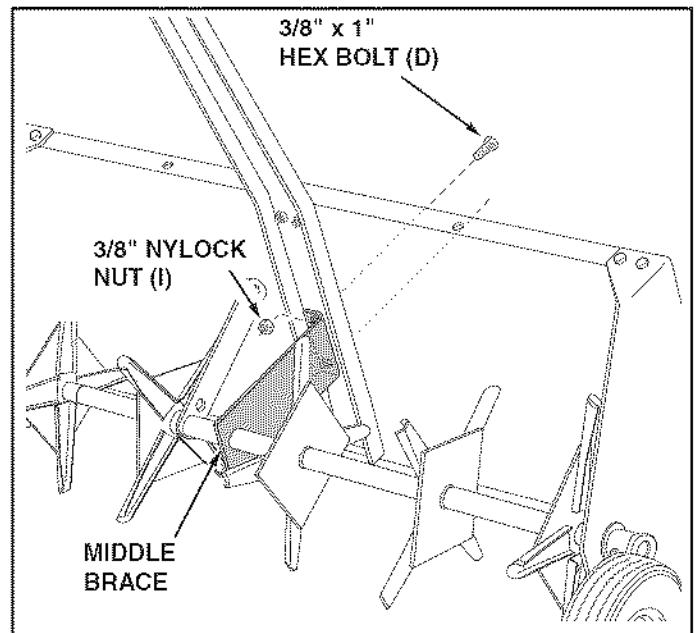

FIGURE 10
- Tip the aerator onto the back edge of the tray. Fasten the middle brace to the bottom of the tongue using two 3/8" x 1" hex bolts (D) and 3/8" nylock nuts (I). **Do not tighten until final step.** See figure 10.